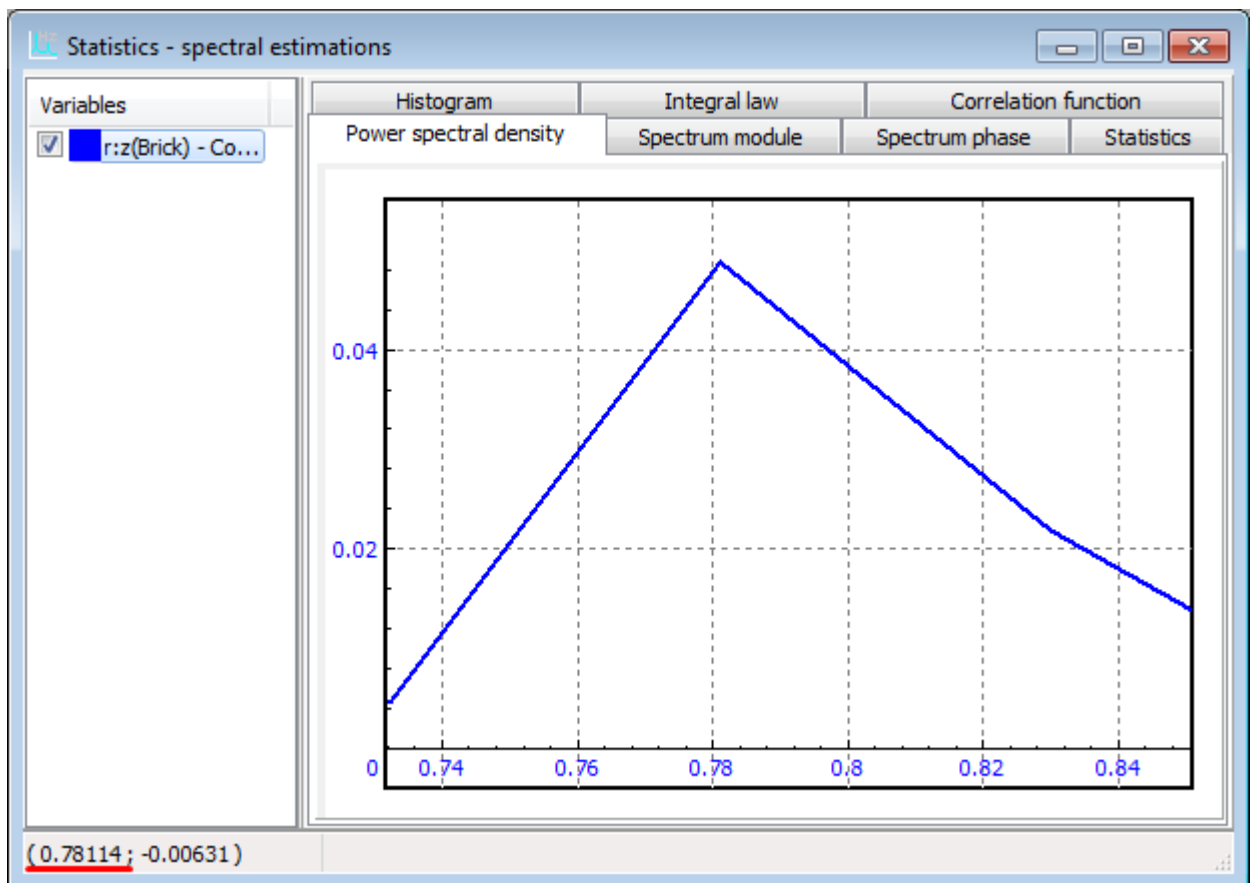

Figure 2.24. Power spectral density of the free oscillations
The characteristic shape of the power spectral density shows the process has the only frequency, which corresponds to natural frequency. We have the accurate analytical solution – 5 rad/s. Not let us obtain this frequency numerically from the plot of the power spectral density, see the Figure 2.24. It is approximately **0.78** Hz, see abscissa in the left bottom corner, 0.78 Hz gives us  $0.78 \cdot 2\pi = 4.9$  rad/s. You can see that numerically obtained values are quite close to analytical one.
**Note.** To pick the frequency more precisely use changing scale of the window as it is shown in the Figure 2.24.